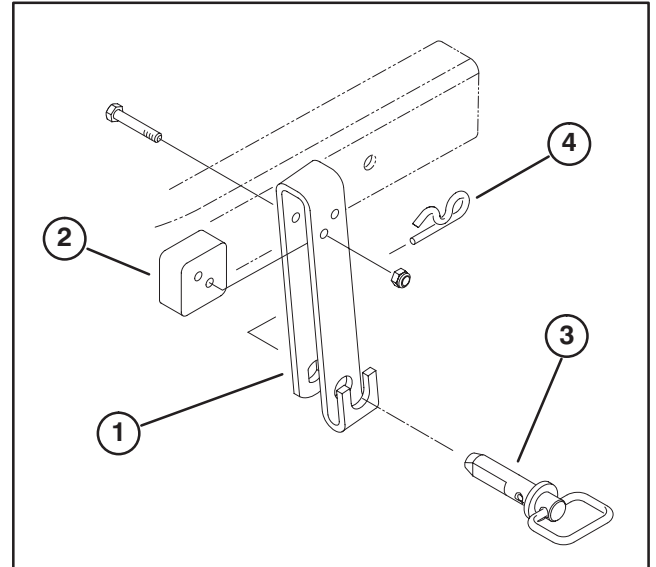

Figure 2
5. Mount a wear plate inside of each rear deck strap with (2) capscrews and locknuts (Fig. 2). Capscrew head to be positioned inward as shown in figure 2.